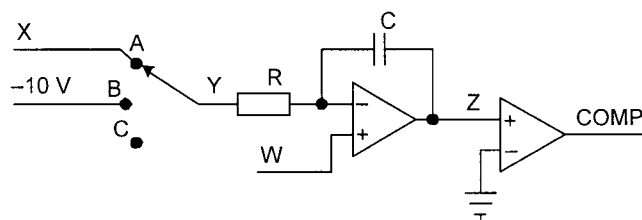

Figure 5.1
5. *Figure 5.1* shows part of the circuit for an integrating Analogue to Digital converter. The circuit contains a resistor, capacitor, operational amplifier, comparator and switch. The operational amplifier and comparator may be assumed ideal. The voltages at points W, X, Y and Z are respectively $w(t)$, $x(t)$, $y(t)$ and $z(t)$.